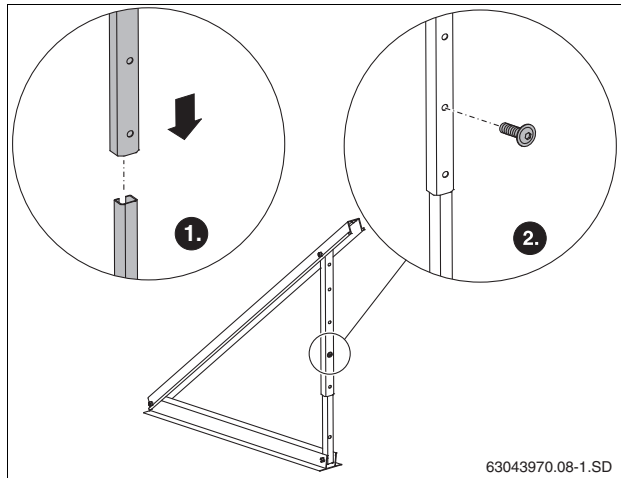

Fig. 11 Connecting telescopic rails
- ▶ Insert telescopic rails into each other and fasten with an M8 × 20 screw (Fig. 11).